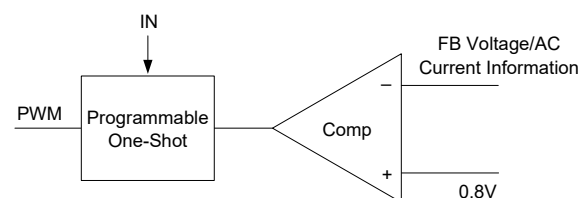

Figure 2. Simplified Control Schematic of AOZ2254EQI-30
The control algorithm of AOZ2254EQI-30 is constant-on-time PWM control with input feed-forward. The simplified control schematic is shown in Figure 2. The high-side switch on-time is determined solely by a one-shot whose pulse width is inversely proportional to input voltage (IN). The one-shot is triggered when the internal 0.8V is higher than the combined information of FB voltage and the AC current information of inductor, which is processed and obtained through the sensed low-side MOSFET current once it turns-on. The added AC current information can help the stability of constant-on time control even with pure ceramic output capacitors, which have very low ESR. The AC current information has no DC offset, which is fundamentally different from other V^2 constant-on time control schemes.